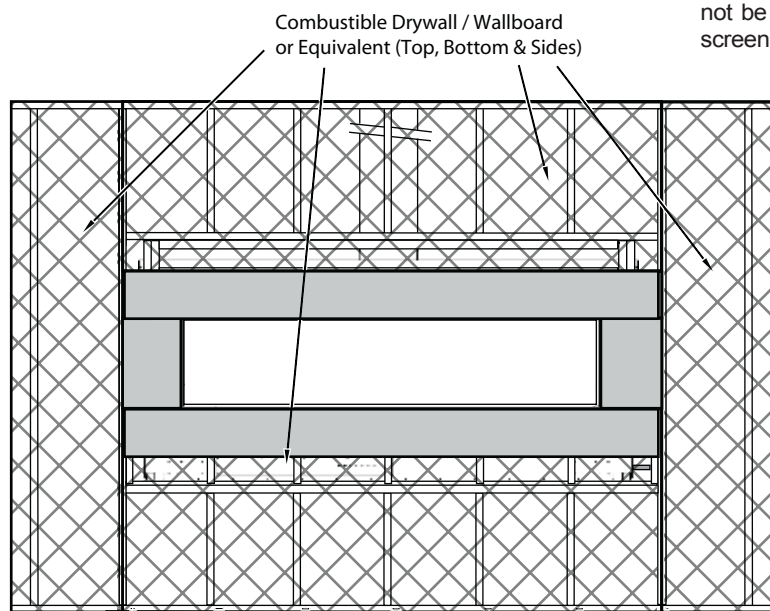

Figure 5 Sec.3 Fireplace installation (Cut the remainder of Drywall / Wall board to complete the fireplace surrounds) Both Sides Typical.
Step 4. As shown in Figure 5; Cut standard Drywall / Wall board to complete the installation of Both surrounds.